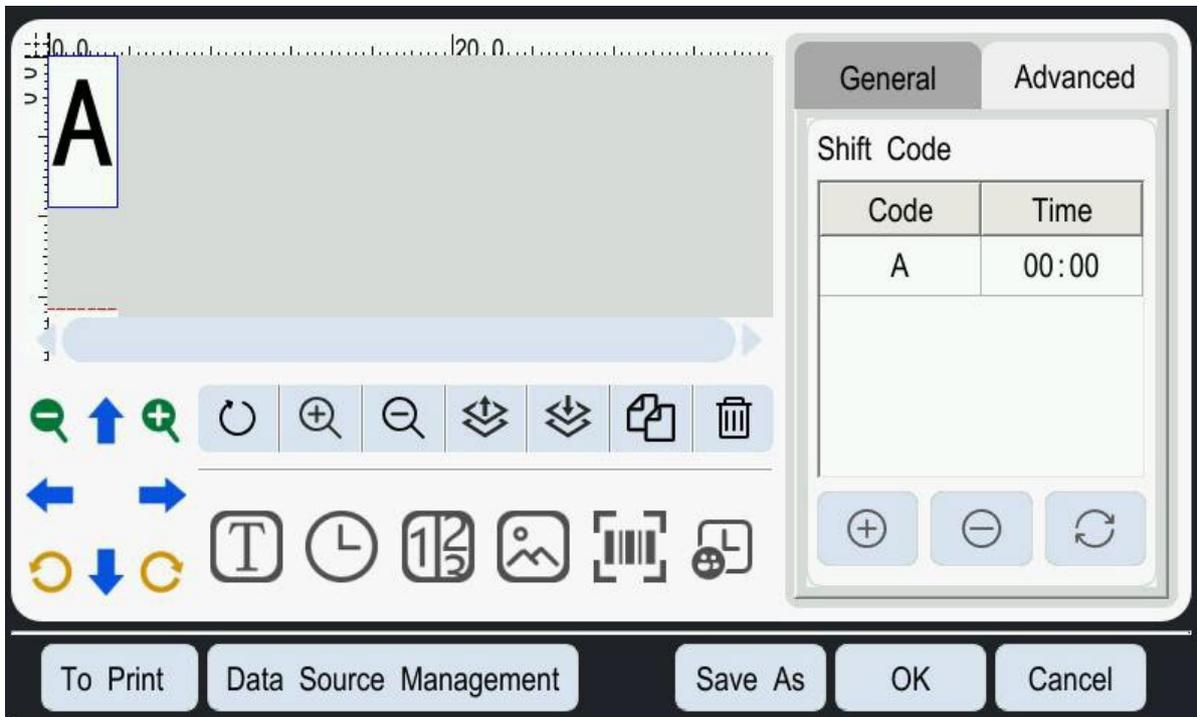

Figure 5-10: Shift Code Editing Interface
1. To record the rotation of each shift (content that automatically changes to the set content at the set time), click the Shift Code button. A default shift code item will appear in the preview area, as shown in Figure 5-10.